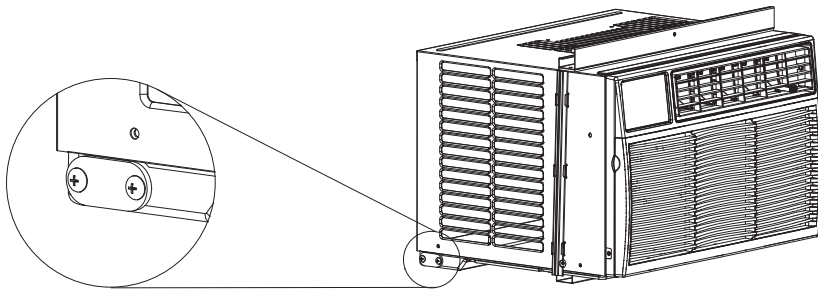

Figure 1
1. The air conditioner have the drainage gasket-Figure 1.